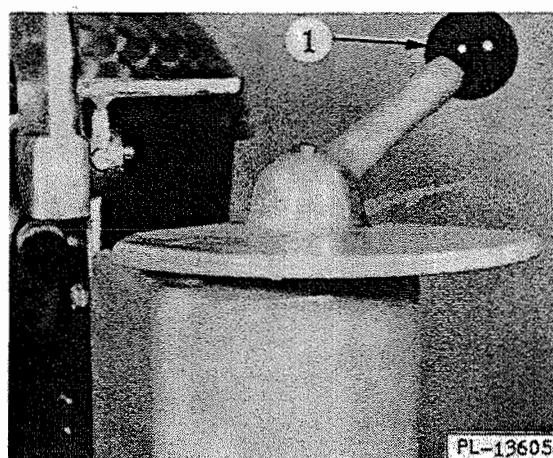

Fig. 3
The cutter/mixer motor is controlled by the manual, rotary, switch (1, Fig. 3) and is mechanically interlocked with the bowl cover. The three positions of the switch are; Off, Low (I) and High (II).